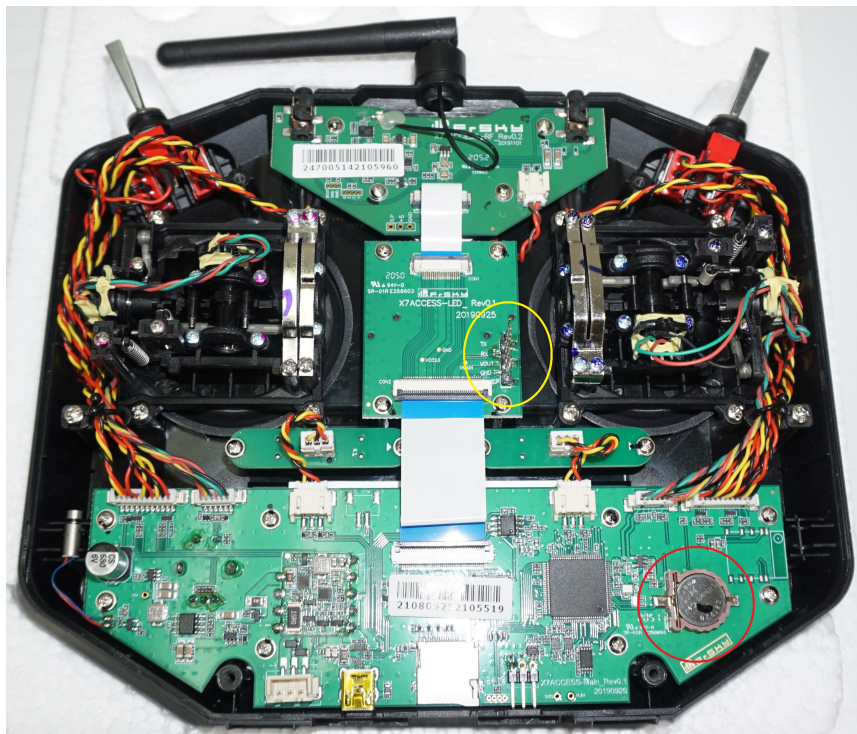

Figure 105: RCU RTC Location
10. Carefully put the two case halves together. Verify the module bay pins (circled yellow in Figure 105) slide through the slot (Figure 14).